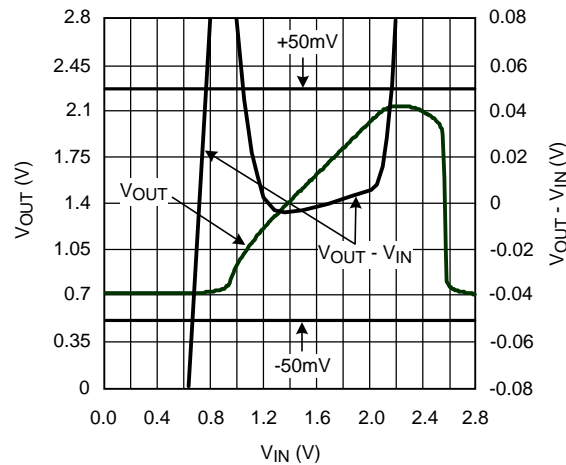
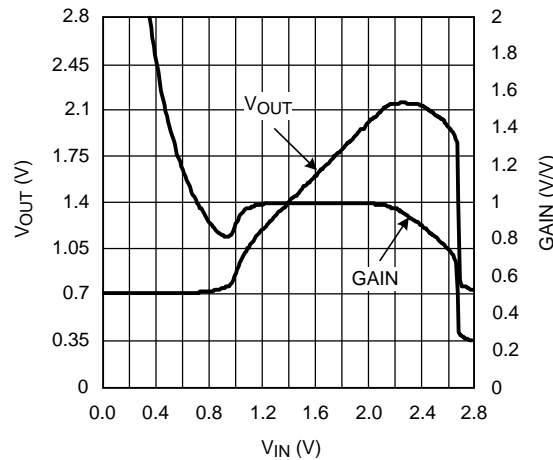

Figure 31. $V_{OUT} - V_{IN}$
Figure 32. Gain
Due to the internal loop gain of 1, the output will follow the input. The output voltage cannot swing as close to the supply rail as the input voltage. For linear operation the input voltage swing should not exceed the output voltage swing. The restrictions for the output voltage can be examined by the two curves in Figure 31. The curve V_{OUT} (V) shows the response of the output signal versus the input signal and the curve $V_{OUT} - V_{IN}$ (V) shows the difference between the output and the input signal.
In Figure 31 the input signal is swept between both supply rails (0V - 2.8V). The linear part of the plot ' V_{OUT} vs. V_{IN} ' covers approximately the voltage range between 1.0V and 2.0V. If a difference of 50mV between output and input is acceptable, the output range is between 1.05V and 2.15V (see curve $V_{OUT} - V_{IN}$). Alternatively the output voltage swing can be determined by using Figure 32. In the plot 'Gain vs. V_{IN} ' it can be seen that the gain is flat for input voltages from 1.15V till 2.1V. Outside this range the gain differs from 1. This will introduce distortion of the output signal.